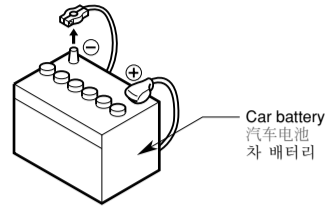

Figure 1 / 图 1 / 그림 1
- Be sure to disconnect the battery "⊖" terminal before starting. This is to prevent short circuits during installation. (Figure 1)